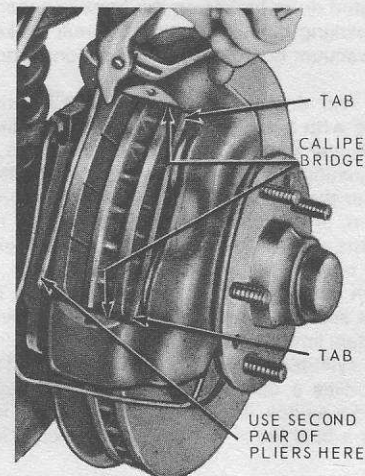

Fig. 9.2 Removing the brake pads – fixed caliper type (Sec. 5)
- 5 Grip the metal flange on the outer end of each shoe using two pairs of pliers and pull the shoes straight out of the caliper assembly (Fig. 9.2).